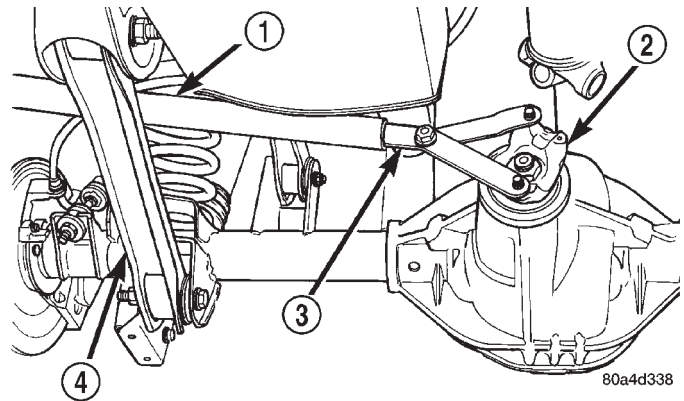

Fig. 50 Pinion Yoke Holder—Typical
- (1) Remove differential assembly from axle housing.
- (2) Mark pinion yoke and propeller shaft for installation alignment.
- (3) Disconnect propeller shaft from pinion yoke. Using suitable wire, tie propeller shaft to underbody.
(4) Using Holder 6958 to the hold yoke, remove the pinion nut and washer (Fig. 50).